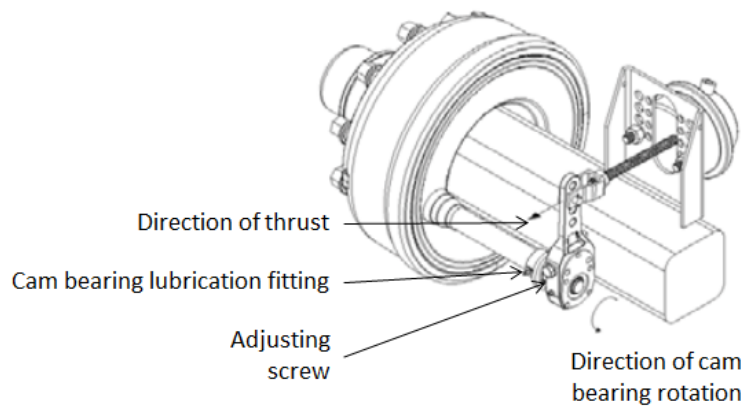

Figure 69 — Adjusting a Brake with a Slack Adjuster
- If the cam bearings have grease fittings, grease them (see Figure 69). Use a moderate amount to avoid getting any grease on the linings or drums.
If a slack adjuster has been installed, turn the adjusting screw on the slack adjuster to adjust its relative position to the cam bearing (see Figure 69).
**Turn it in the direction that the cam bearing rotates (see Figure 69). To take up the slack, turn the screw so that the bearing turns in the same direction.**